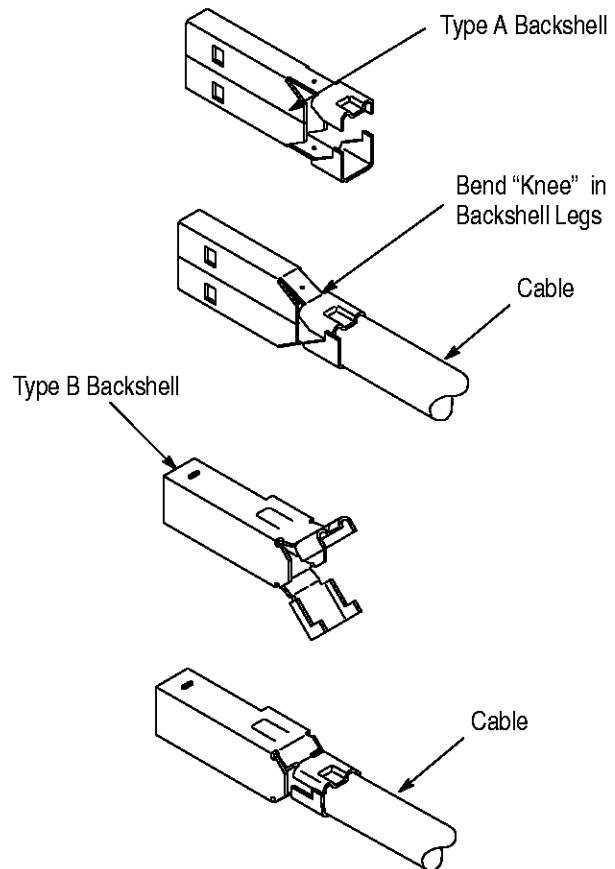

Figure 5
This instruction sheet covers the setup, operation, and maintenance of AMP\* Backshell Crimper Assembly 1214695-1. The crimper assembly is used in conjunction with Manual Arbor Frame Assembly 91085-2 or Manual Arbor Frame Assembly 58024-1 to crimp AMP Universal Serial Bus (USB) Type A and B backshells (Figure 5) onto cable with USB connectors.
4. Place backshell on the end of the cable and bend the legs of backshell around the cable. See Figure 5.
It will be necessary to bend a "knee" in the legs of Type A backshells. Refer to Figure 5.